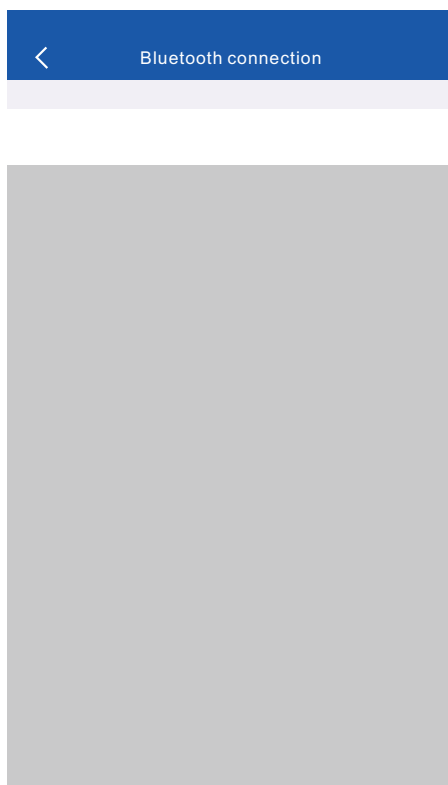

Fig.12
- ③.After pairing, it enters the interface in Figure 12, and the page will automatically search for the bluetooth that can be matched and display the name of the bluetooth that can be connected. If the search fails of android phone page, click the refresh icon in the upper right corner to search again. The iphone automatically searches directly.